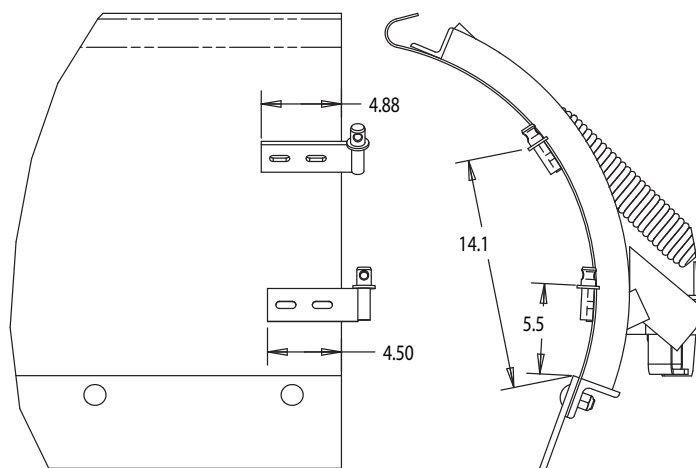
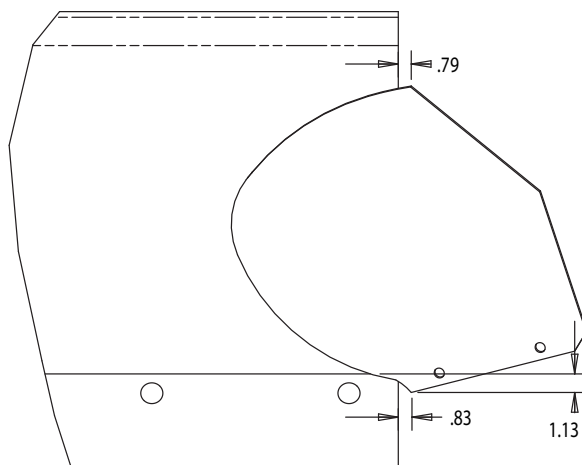

FIGURE 1.
FIGURE 2.
2. Locate the two driver's side pin brackets. With two c-clamps, clamp the pin brackets to the driver's side of the plow as shown in figure 1. Hang the driver's side Pro-Wing on the pin brackets. Adjust the position of the pin brackets until the top and bottom corners of the Pro-Wing are positioned as shown in figure 2.